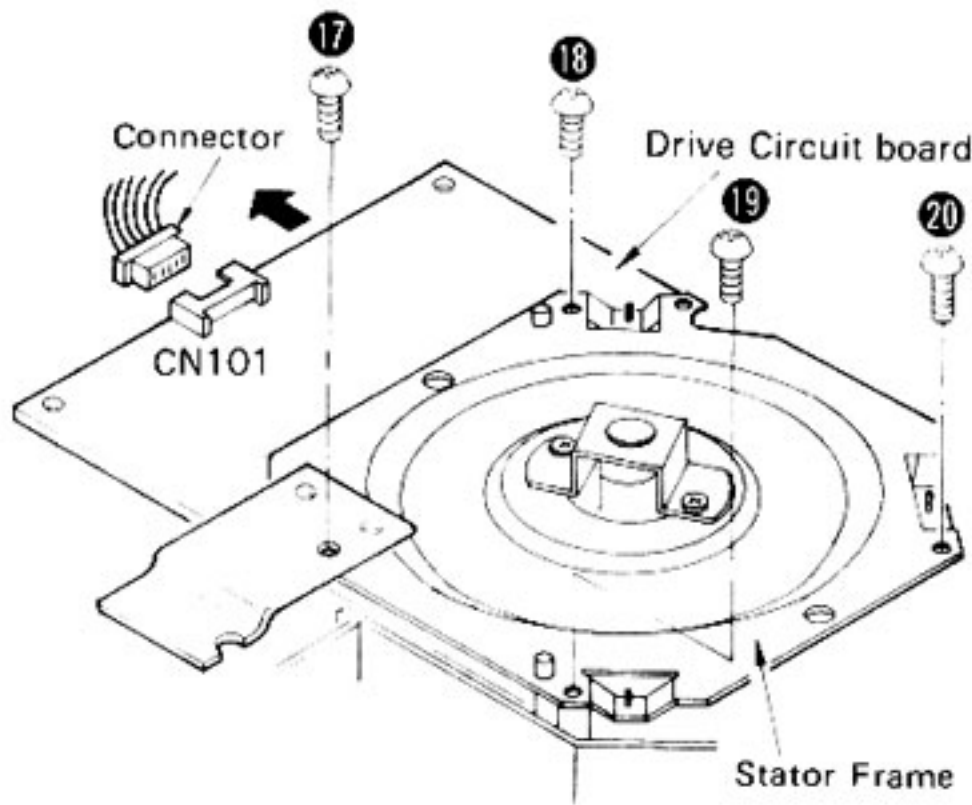

Fig. 6
2. Remove the 4 setscrews (Fig. 6: ⑰~⑳) of the stator frame.